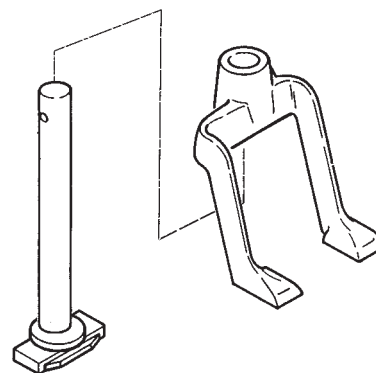

Figure 1
1. With shoulders of T-nut (10) down, place washer (9) on T-nut and thread rod (8) approximately two turns into the t-nut.
2. Insert Rod (8) in foot (7) with threaded end down, as shown in Figure 1.